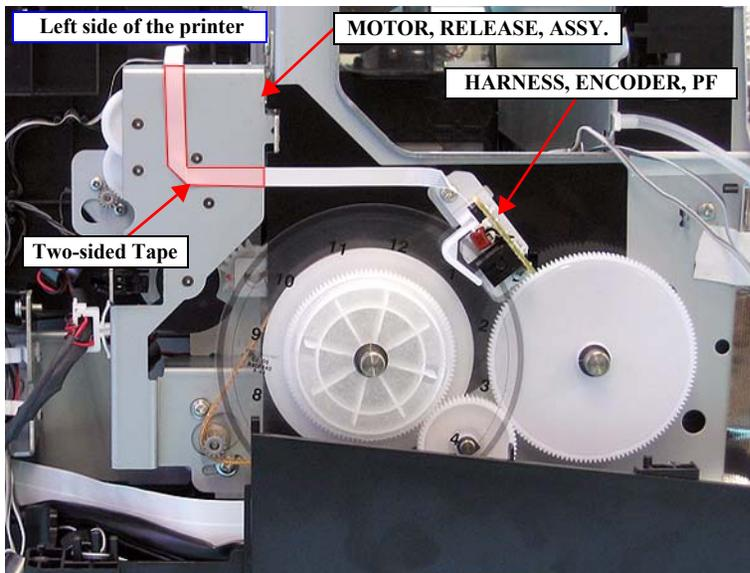

Figure 4-133. Removing the HARNESS, ENCODER, PF
6. Remove the HARNESS, ENCODER, PF secured to the MOTOR, RELEASE, ASSY., with the two-sided tape. *See Figure 4-133.*